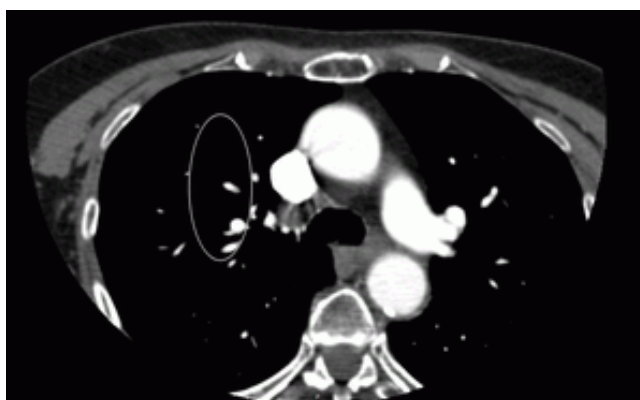

*Figure 2.87: Polygon labels*
6. Double-click the mouse to create the last point. The polygon is complete (Fig. 2.87).